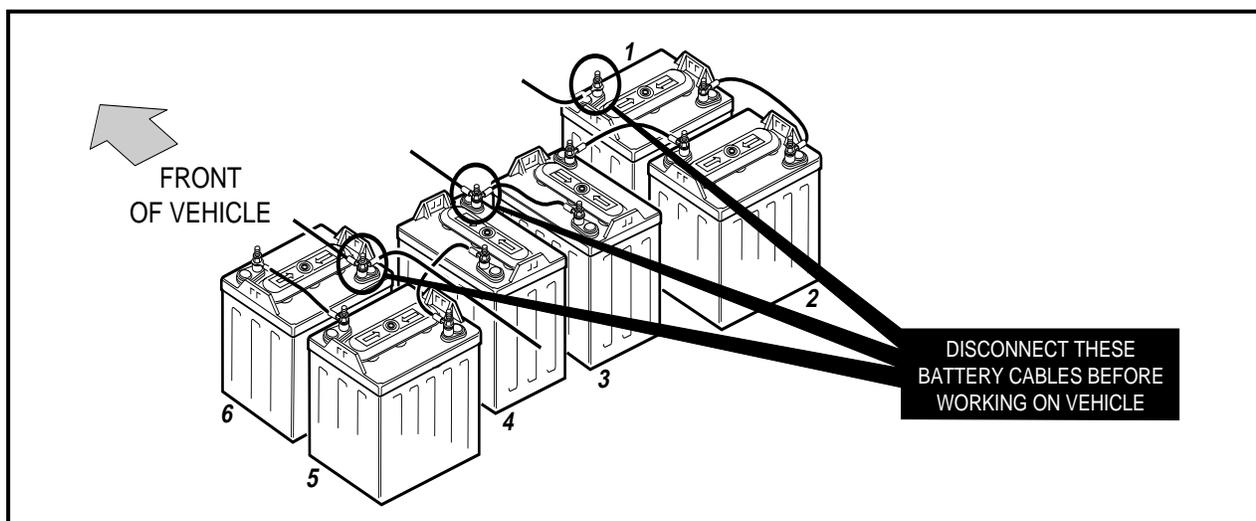

Figure 13-5 V-Glide 36-volt Battery Configuration
- TO AVOID UNINTENTIONALLY STARTING THE VEHICLE, DISCONNECT BATTERIES, NEGATIVE CABLE FIRST, AS SHOWN IN **FIGURE 13-5, PAGE 13-4.**
1. Before removing batteries, note orientation of batteries and the connecting wires. Disconnect the batteries, negative cable first. Then remove remaining wires and batteries. **See Figure 13-5, Page 13-4 for V-Glide 36-volt vehicle battery wiring.**
5. Install batteries in the proper orientation (**Figure 13-5, Page 13-4**). Install the battery hold-downs. The hold-downs should be tight enough so the batteries do not move while the vehicle is in motion, but not so tight as to crack or buckle the battery case. Tighten to 40 in.lb (4.5 N-m), alternating between hold-down bolts.
6. Install wires in proper sequence (**Figure 13-5, Page 13-4**). **See also Section 11, Page 11-3, Vehicle Wiring Diagram.** Install black wire to negative post of battery No. 6 last. Make sure all connections are tight. Tighten to 110 in.lb (12.4 N-m). Coat all terminals with Battery Protector Spray (CLUB CAR Part No.1014305) to minimize future corrosion.